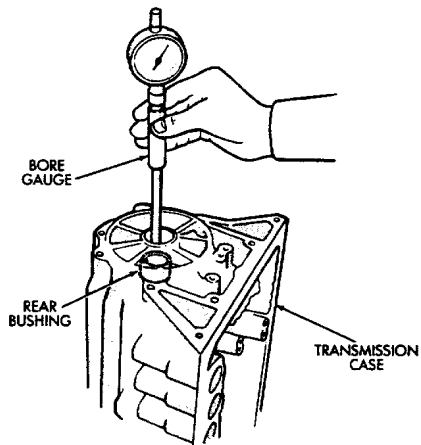

Fig. 49 Checking Rear Bushing Inside Diameter
(58) Measure inside diameter of transmission case rear bushing with bore gauge or inside micrometer (Fig. 49). Maximum allowable diameter is 38.18 mm (1.5031 in). Replace transmission case if bushing I.D. is greater than specified. Bushing is not serviceable.